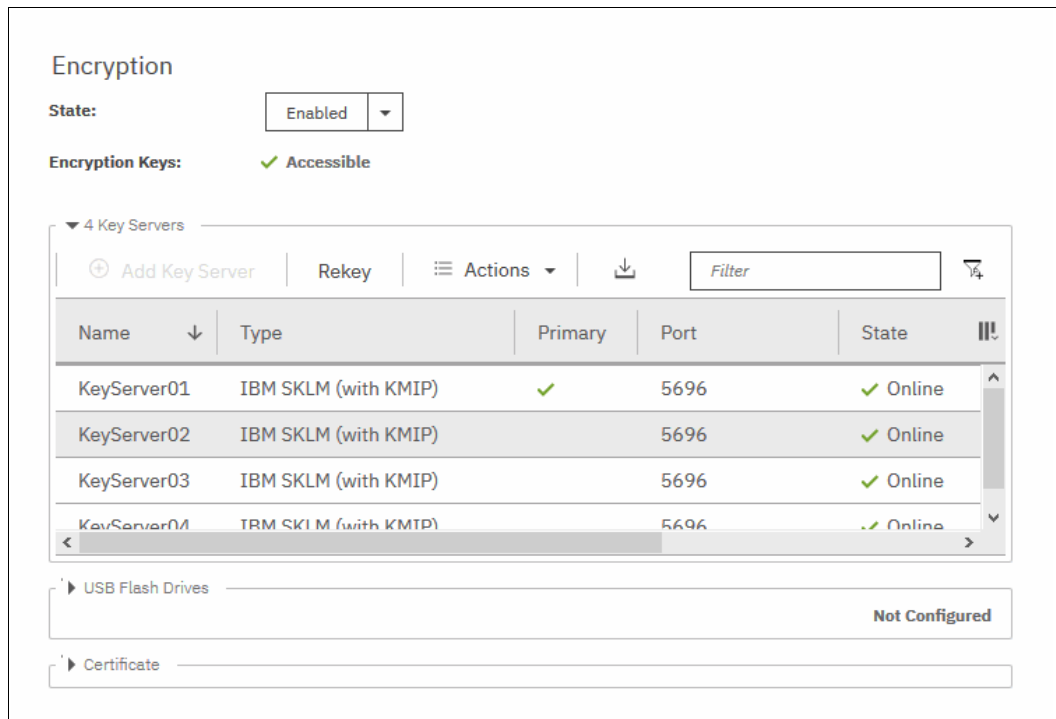

Figure 13-40 Encryption enabled with only SKLM servers as encryption key providers
12. Confirm that encryption is enabled by clicking **Settings** → **Security** → **Encryption**, as shown in Figure 13-40. The “Online” state indicates which SKLM servers are detected as available by the system.